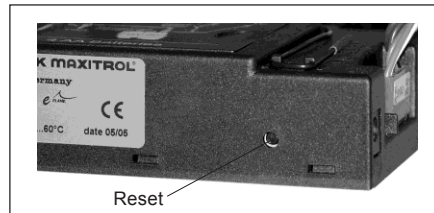

Figure 7: Receiver with Reset button
2. Press and hold the receiver's reset button until you hear two (2) acoustic signals. After the second longer acoustic signal, release the reset button and within the subsequent 20 seconds, press the  (down arrow) on the remote handset until you hear an additional long acoustic signal confirming the new code is set (see figure 7).